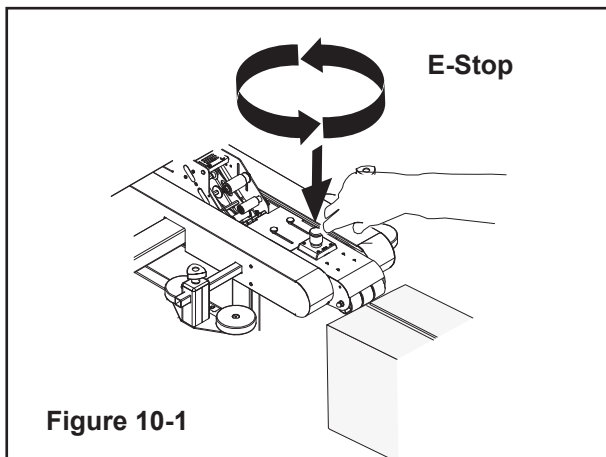

Figure 10-1
The machine electrical supply can be turned off by pressing the latching emergency stop switch. To restart machine, rotate the emergency stop switch clockwise to release the switch latch (Figure 10-1). Restart machine by Turning the On/Off switch to the Off (O) position and then to the On (I) position.